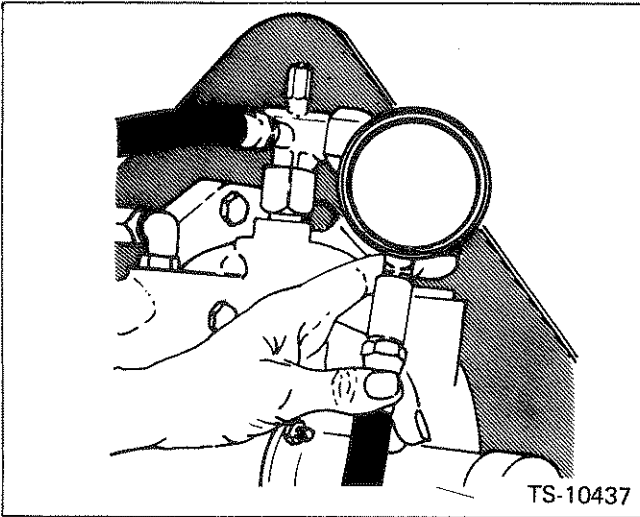

Fig. 8-2 Oil Cooler Out Pressure Drop Check
1. Install a tachometer on the engine. Install gauges at the converter OUT pressure check point, (this reading is the same as the oil cooler IN pressure, see NOTE above) and at the oil cooler OUT pressure check point located behind the operator's seat on the right hand cooler hose at the back of the transmission. Fig. 8-2.